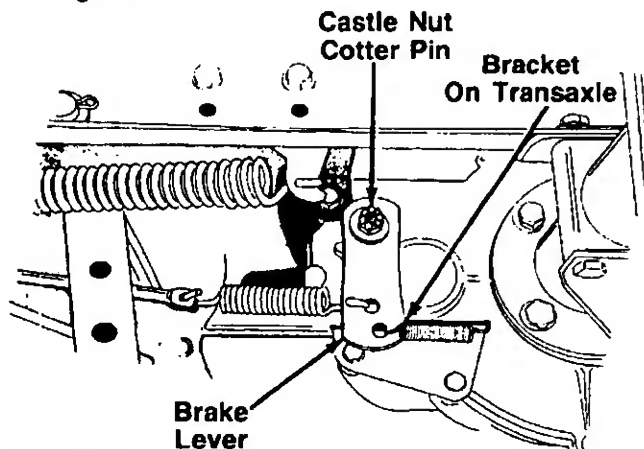

FIGURE 18.
- c. After rod is adjusted to fit over pin, then turn rod **four (4) full turns counterclockwise**. Move speed control lever to second position. Attach rod to pin on variable speed torque bracket, using the flat washer and cotter pin.
11. Adjust the brake by removing the cotter pin. Tighten the castle nut by hand until the brake lever locks against the bracket on the transaxle. See figure 18.